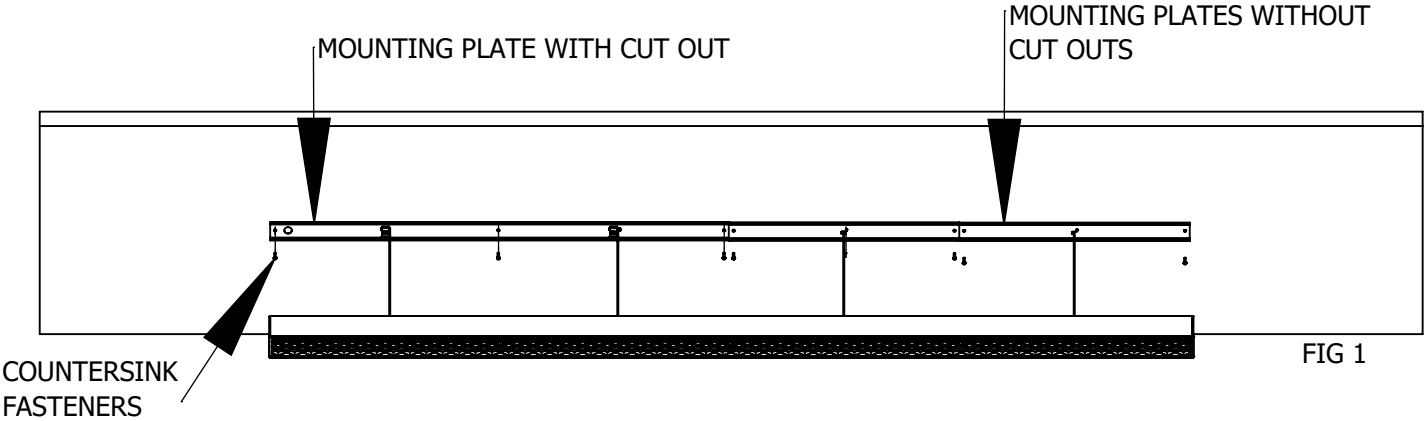

FIG 1
1. ATTACH SURFACE MOUNTING PLATES TO RELEVANT SURFACE WITH THE PLATE WITH CUT OUT CENTERED AROUND SWITCH BOX TO PASS WIRES. USE COUNTERSINK FASTENERS (BY OTHERS). (FIG 1)